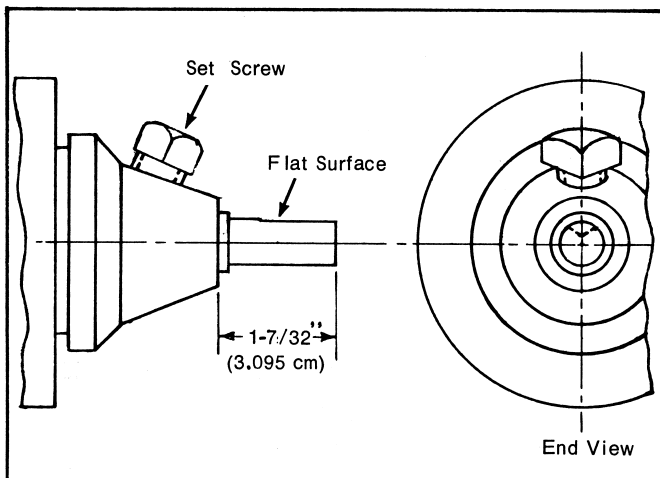

Figure 3
1. Clamp roller (D) vertically in a vise while supporting the lower end of the shaft (G) to prevent it from dropping out of the tube during the following operations. **IMPORTANT:** Be sure that the drill point is at the lower end of the shaft (See Fig. 3).
1. Turn roller collar on end of shaft which has drill point until 1-7/32" (3.09 cm) dimension is reached as shown in Figure 3. Set screw and drill point should be in line. If not, turn collar clockwise or counterclockwise until both are in line. Then lock set screw securely.